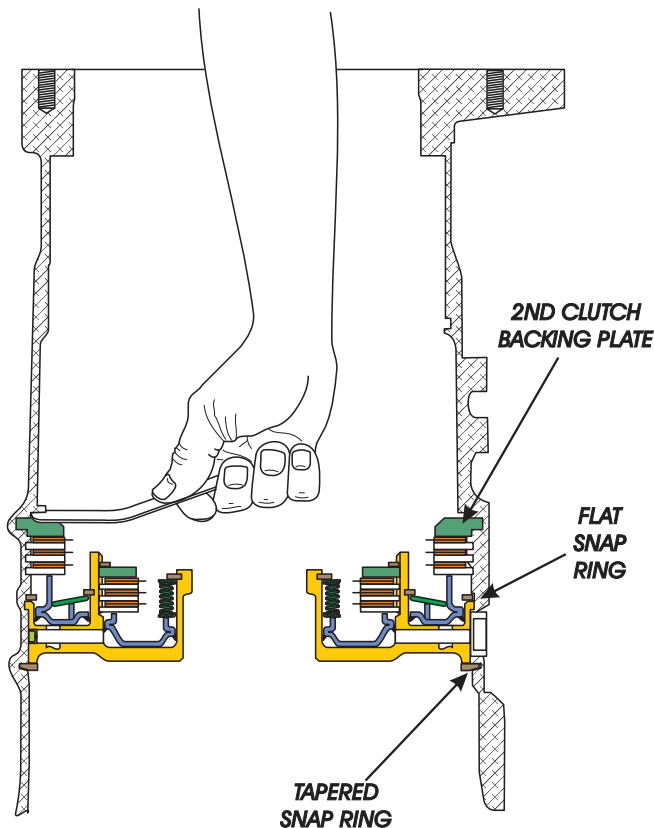

Figure 139
6. Using a feeler gauge through rear case opening, measure between the backing plate and the case, as shown in Figure 139. Measure at 4 different points 90 degrees apart. The average of these measurements is the second clearance.